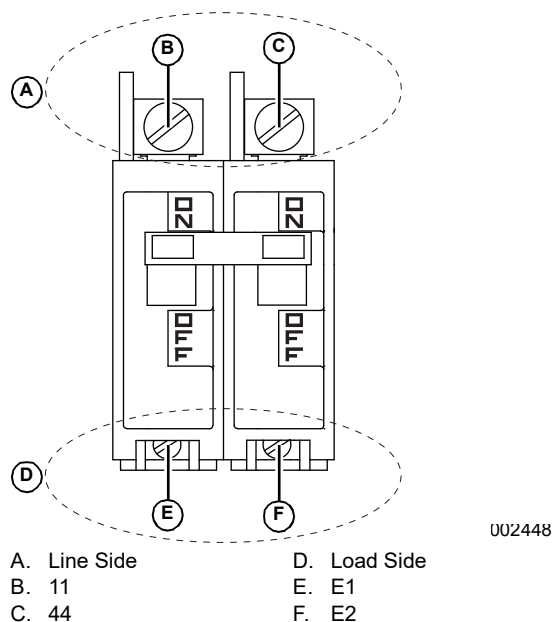

Figure 3-63. Main Line Circuit Breaker
3. See Figure 3-63. Connect one meter test lead to the Wire 11 terminal on the breaker and the other test lead to the E1 terminal.